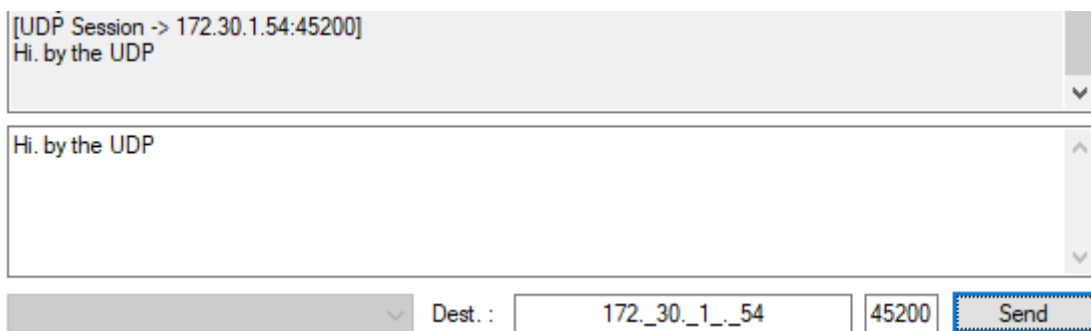

Figure 31: UDP Session Data Transfer
- **UDP Session:** Select the **UDP Session** checkbox → Enter the destination IP and port number → Type a message → Click the **Send** button (see Figure 31)